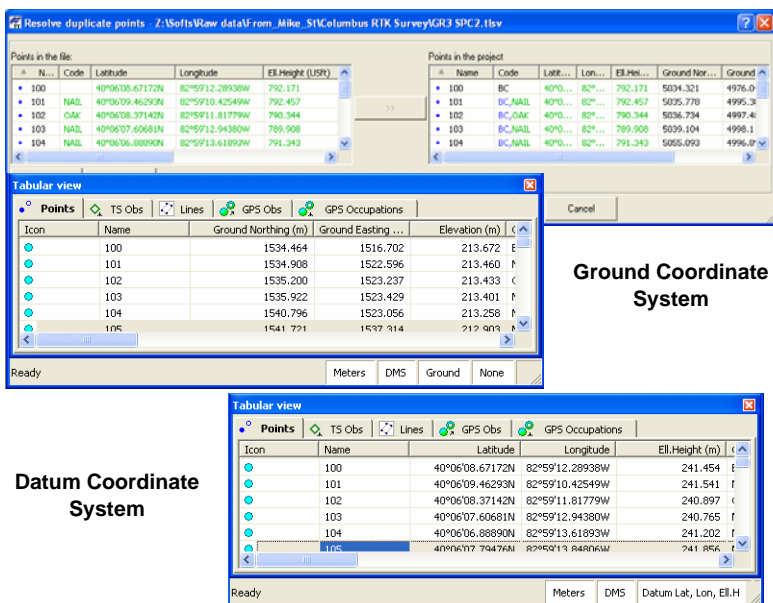

Figure 5-23. Ground/Datum Coordinate System
*If the coordinates of the imported and existing points in the current job are in the Datum/Grid and Ground coordinates systems (or vice versa) and the job does not have transformation/localization parameters, Topcon Tools will display both lists of the coordinates without any conversion (as is) in the right pane of the Resolve Duplicate Points window. After clicking OK, the points with identical names will have the coordinates in both coordinate system (Figure 5-23 on page 5-22).*